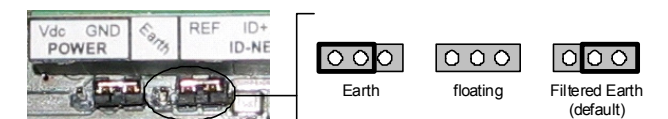

Figure 6 - Shield to Protection Earth Jumper Settings
- Connect the Network Cable Shield (Shield) to Filtered Earth through the jumper (default setting, see Figure 6).